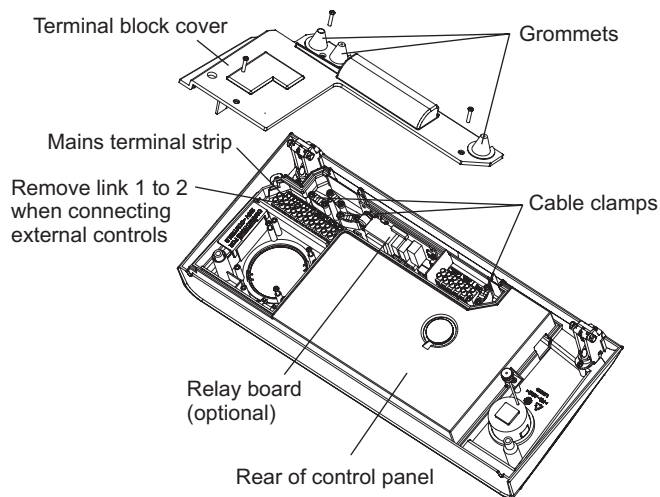

Fig. 23
4.10 CONNECT THE MAINS SUPPLY - Fig. 23
Remove the two screws securing the terminal block cover from the back of the control box (see Fig. 23). Pass the mains supply cable through the cable clamp and connect as follows:- Brown to L, Blue to N and Green/Yellow to $\perp$. Ensure correct polarity.